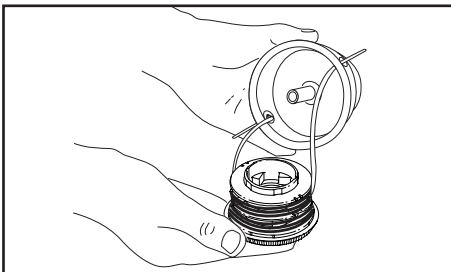

Fig. 20
1. Insert the ends of the two trimming lines into the eyelets in the outer spool (Fig. 20), then grasp the ends and pull firmly to release the line from the holding slots in the outer spool.